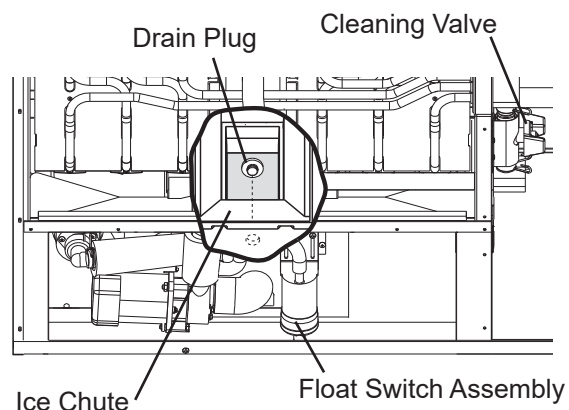

Fig. 6
- 3) Remove the insulation panel. Remove the drain plug located on the lower front part of the ice chute. See Fig. 6. Allow the water tank to drain.